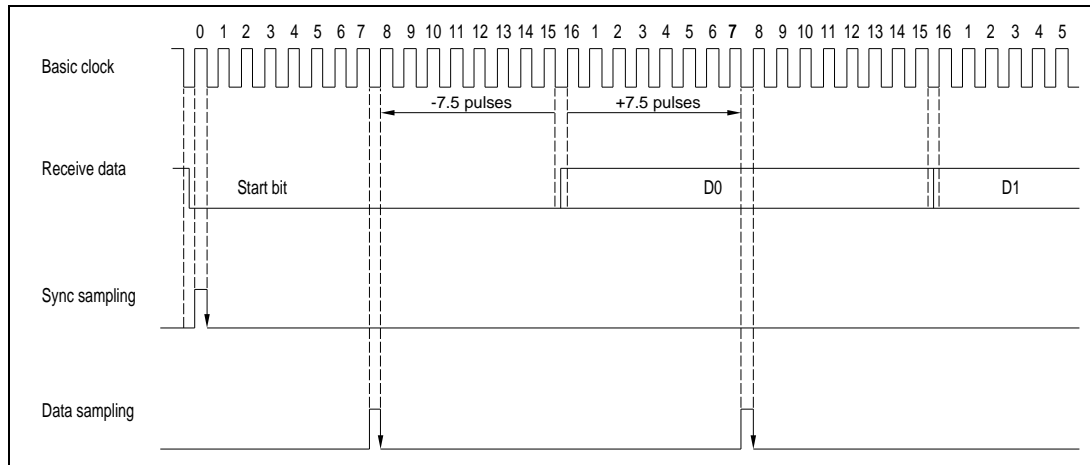

Figure 9-18. Sampling Timing (Asynchronous Mode)
(4) Sampling Timing and Receive Margin in Asynchronous Mode: The serial clock used by the SCI in asynchronous mode runs at 16 times the baud rate. The falling edge of the start bit is detected by sampling the RxD input on the falling edge of this clock. After the start bit is detected, each bit of receive data in the frame (including the start bit, parity bit, and stop bit or bits) is sampled on the rising edge of the serial clock pulse at the center of the bit. See figure 9-18.